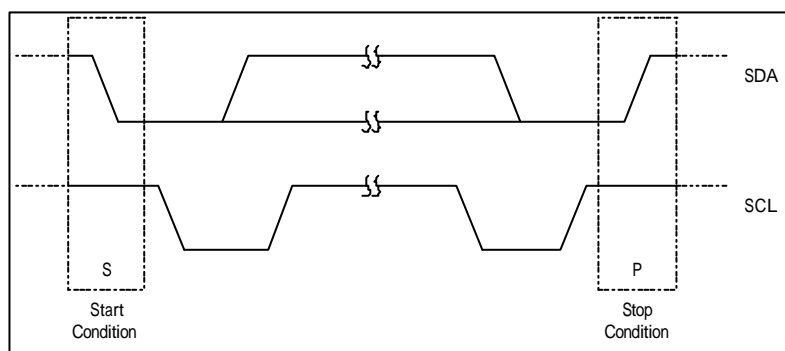

Fig 5.1 Start and Stop Conditions
- Start and stop condition: A high to low transition of the SDA line while SCL is high defines a start condition. A low to high transition of the SDA line while SCL is high defines a stop condition. Please refer to Fig 5.1.